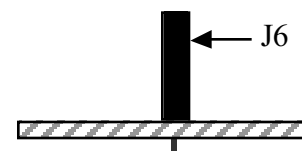

Figure 6-4
- Install an 8-pin female connector at J6, on the top side of the RF board. It must be flush with the board and not tilted (Figure 6-4). Solder just one pin near the center of J6.